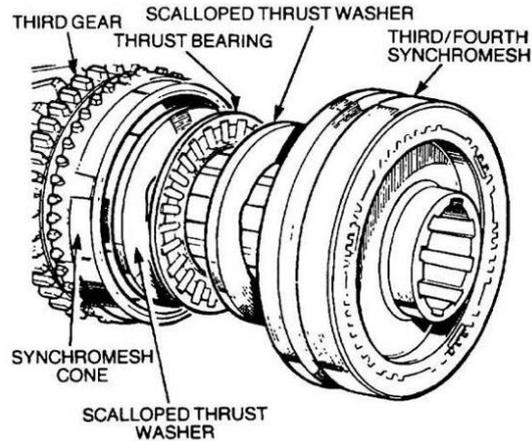

Figure 180 Installation of the Third and Fourth Synchronesh
- h. Install a scalloped thrust washer, a thrust bearing and another scalloped washer on the mainshaft. Position a synchromesh cone on the third gear and fit the third and fourth synchromesh assembly, ensure that the coned face is towards the rear of the mainshaft (Figure 180).